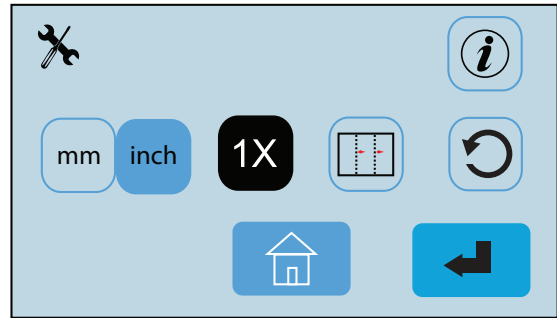

Fig. 35
1. From the Operator Settings Menu press the Test Icon  to access Test Sheet Setting (Fig. 35).